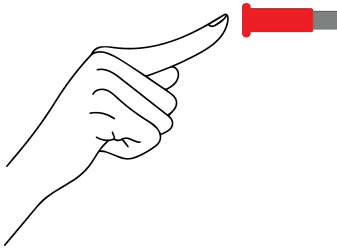

Fig 1. Press the red switch to reset
- To reset, simply press the red button (**Fig 1**) at the rear or the side of the refrigerated water bath (**Fig 2**). If the Compressor does not start after pressing the red button, wait 30 minutes to allow the pressure in the system to drop to a safe level. Then try again. The pressure in the system needs to drop to 1800kpa before it will reset.